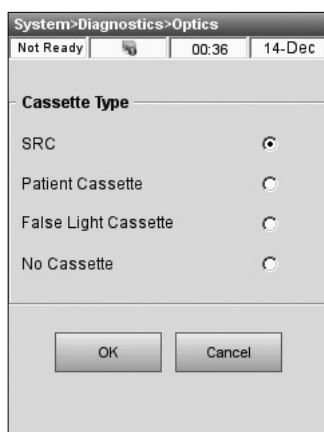

Fig. 8-17 Cassette Type
- Select the Cassette type and press  (Fig. 8-17).